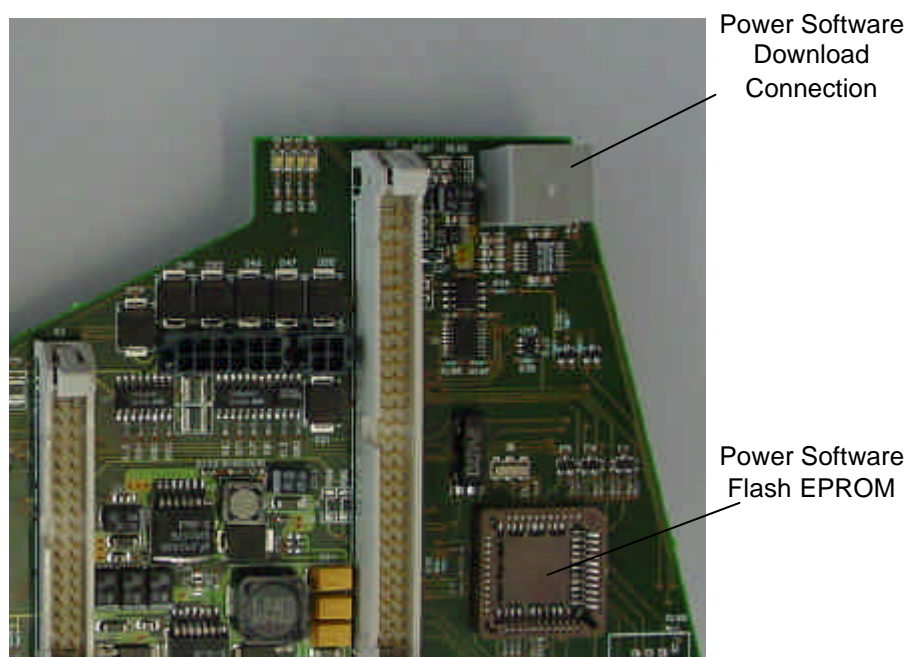

Figure 6, Power Software Download Port
- Attach the other end of the software download to the vacant connector on the Power PCB immediately adjacent to the SW Flash EPROM shown in figure 6.